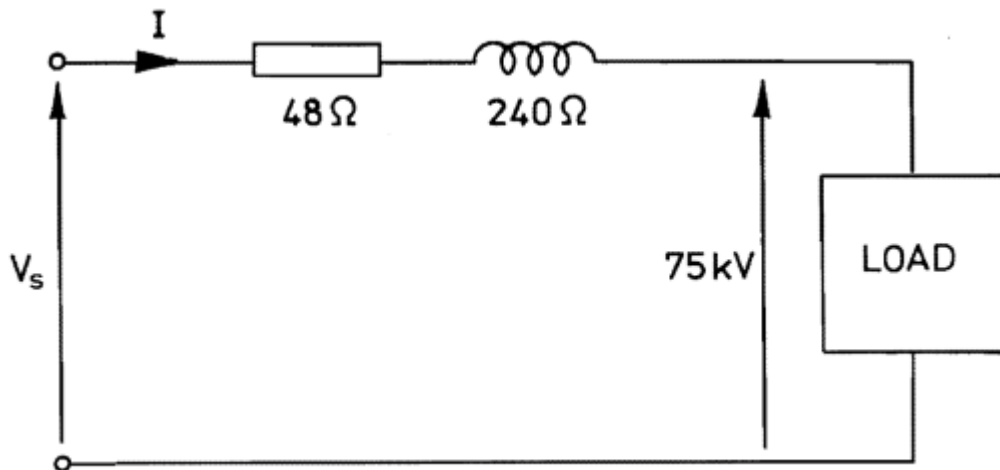

Fig. 1
5.\* Fig. 1 shows a load which consumes 3 MW at a power factor of 0.6 lagging, connected to the supply voltage,  $V_s$ , via a transmission line of impedance  $(48 + j240) \Omega$ . The voltage at the load is 75 kV. Find: